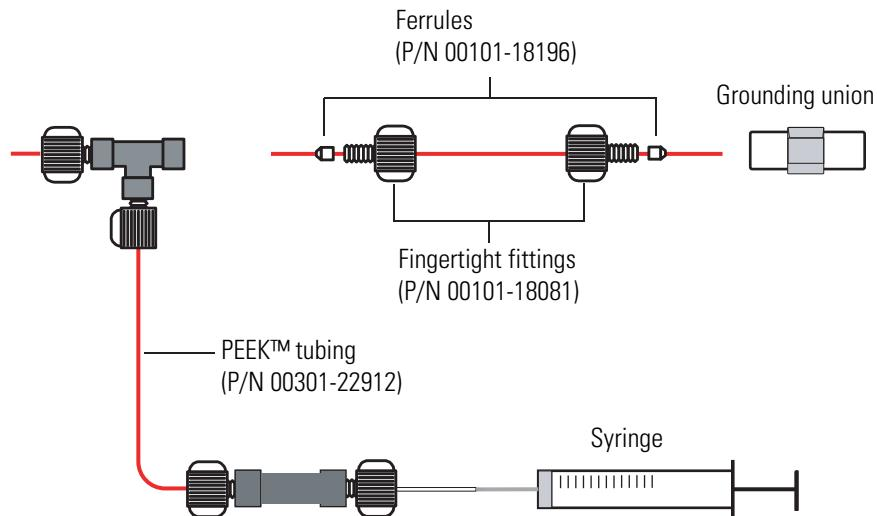
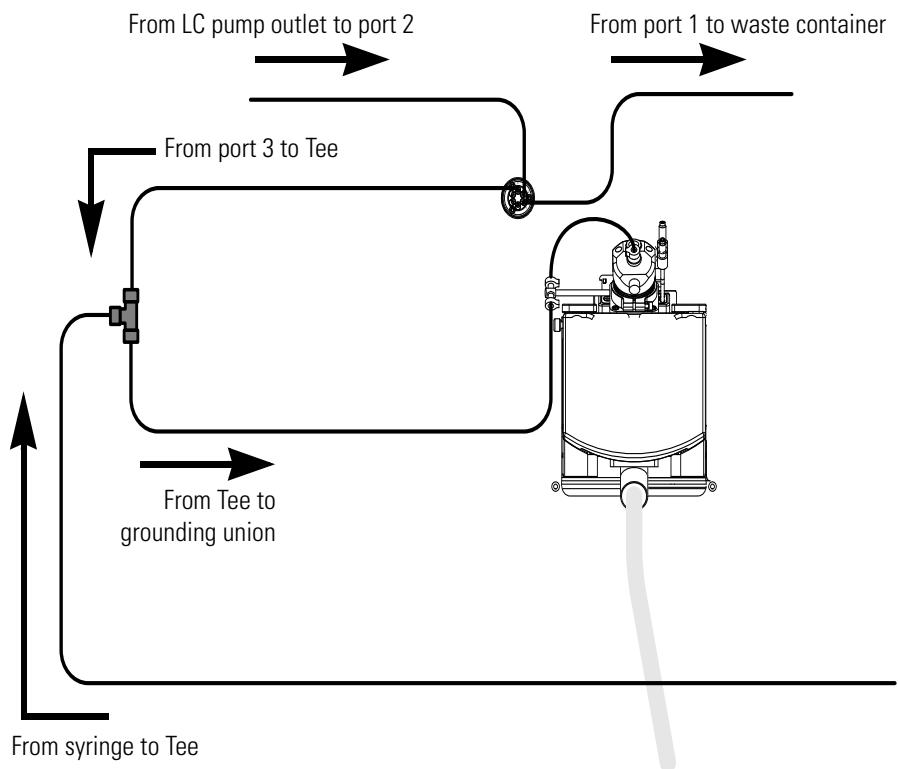

Figure 5-14. Connecting the union Tee to the grounding union used for the ESI probe
Figure 5-15. Plumbing diagram showing ESI/MS sample introduction with high-flow infusion
- For the ESI probe, use a fingertight fitting and a ferrule to connect the other end of the tubing to the grounding union that is held by the grounding bar of the Ion Max API source. See Figure 5-14 and Figure 5-15.